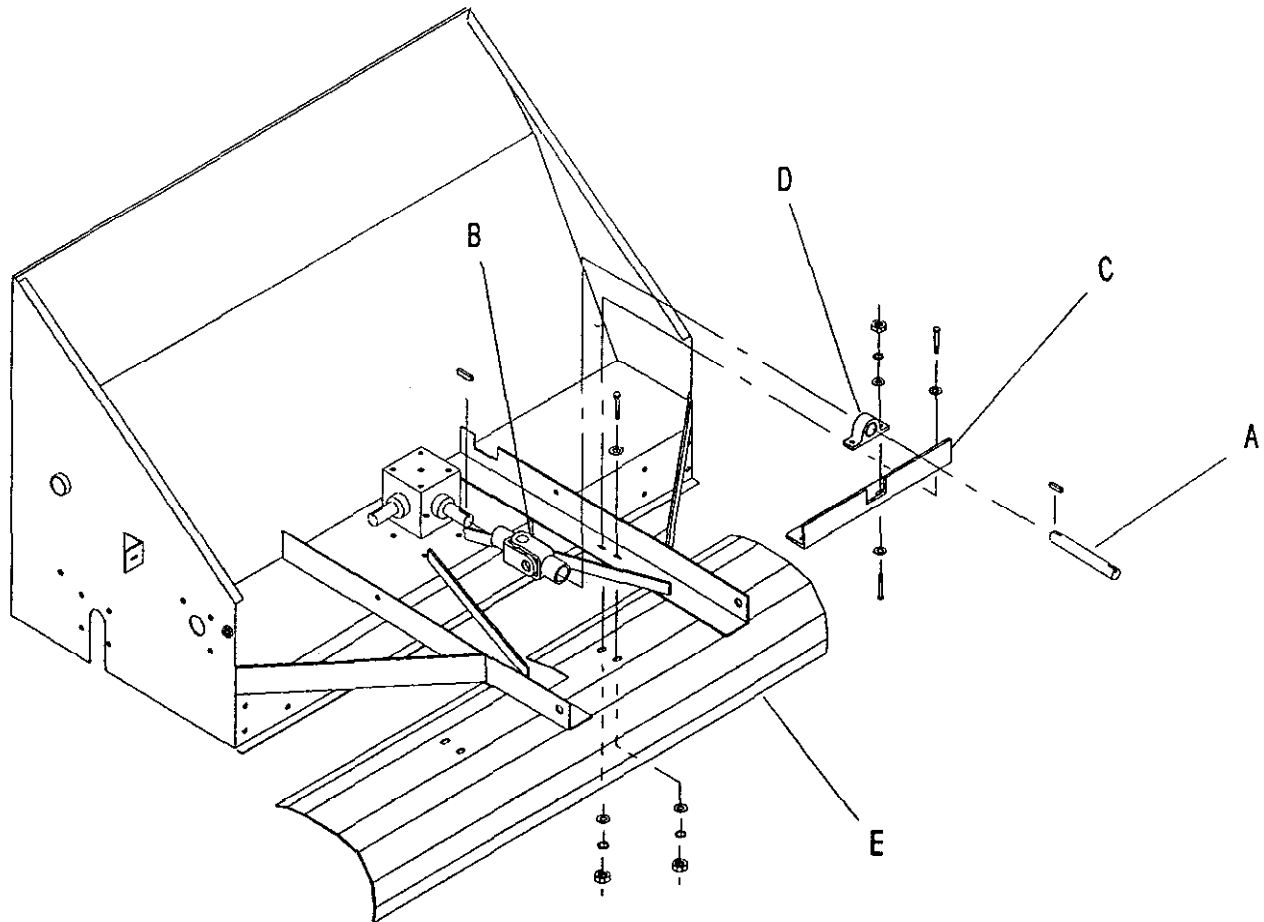

Figure 5
8. (FIG. 5) Attach the PTO extension shaft (item A) and U-joint (item B), along with the mounting angle (item C), bearing (item D) and the blade guard (item E) to the gearbox as shown in the illustrated parts. Hook up the tractor PTO to the PTO extension.